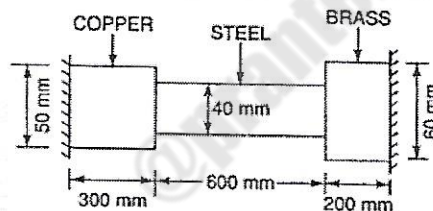

Figure 01
- B) A composite bar made of copper, steel and brass is rigidly attached to the end supports as shown in figure 01. Determine the stresses in the three portions of the bar when the temperature of the composite system is raised by  $70^{\circ}\text{C}$  when